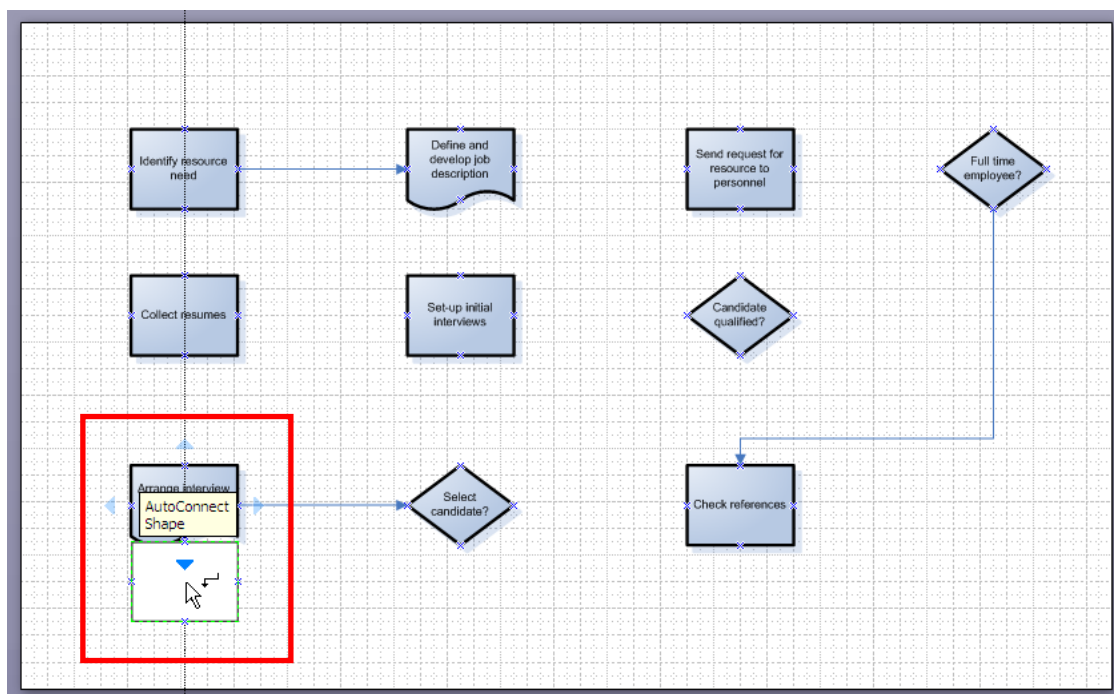

Figure 16 – Shape-to-shape Connection by Dragging Shapes
2. Drag the **Process** shape  from the stencil onto the drawing page and position it over the bottom blue connection arrow of the **Document** shape  in the third row (see Figure 16). The arrow turns dark blue.